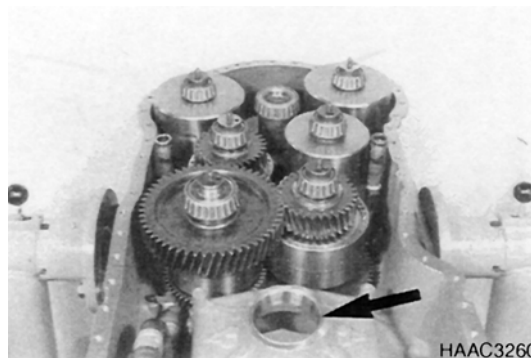

Figure 245
2. Insert outer bearing race (Figure 245) into the housing bore until contact is obtained.